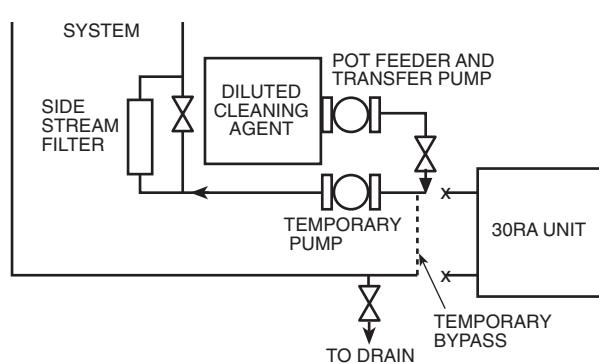

Fig. 15 — Cleaning Using a Side Stream Filter
- c. A side stream filter is recommended (see Fig. 15) during the cleaning process. Filter side flow rate should be enough to filter the entire water volume